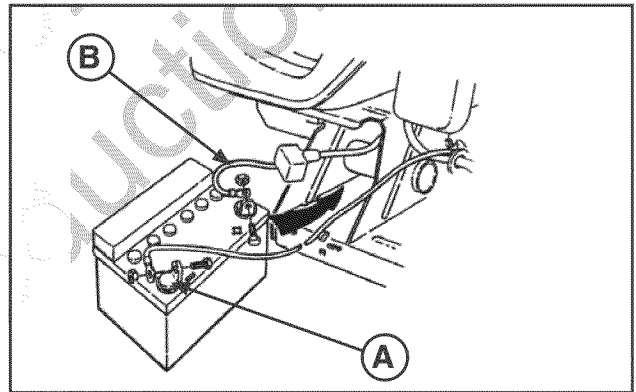

FIGURE 15
1. Disconnect the cables from the battery, negative cable first (**A**, Figure 15).